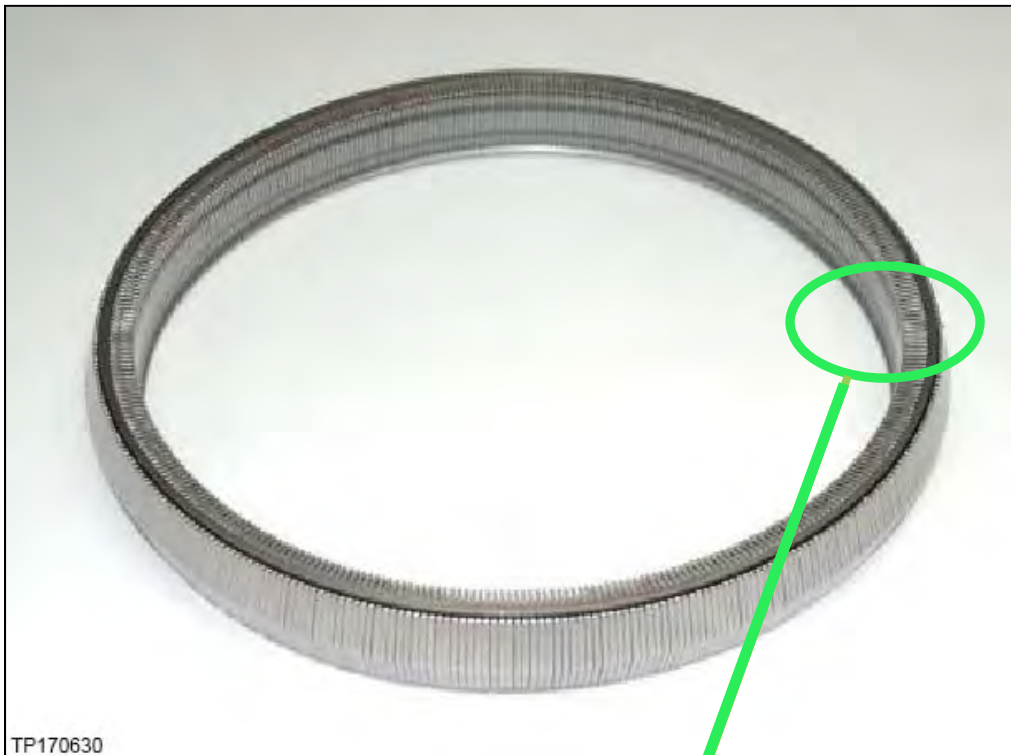

Figure 40
- Reference Figure 40 through Figure 48 on pages 26-29 for comparison.